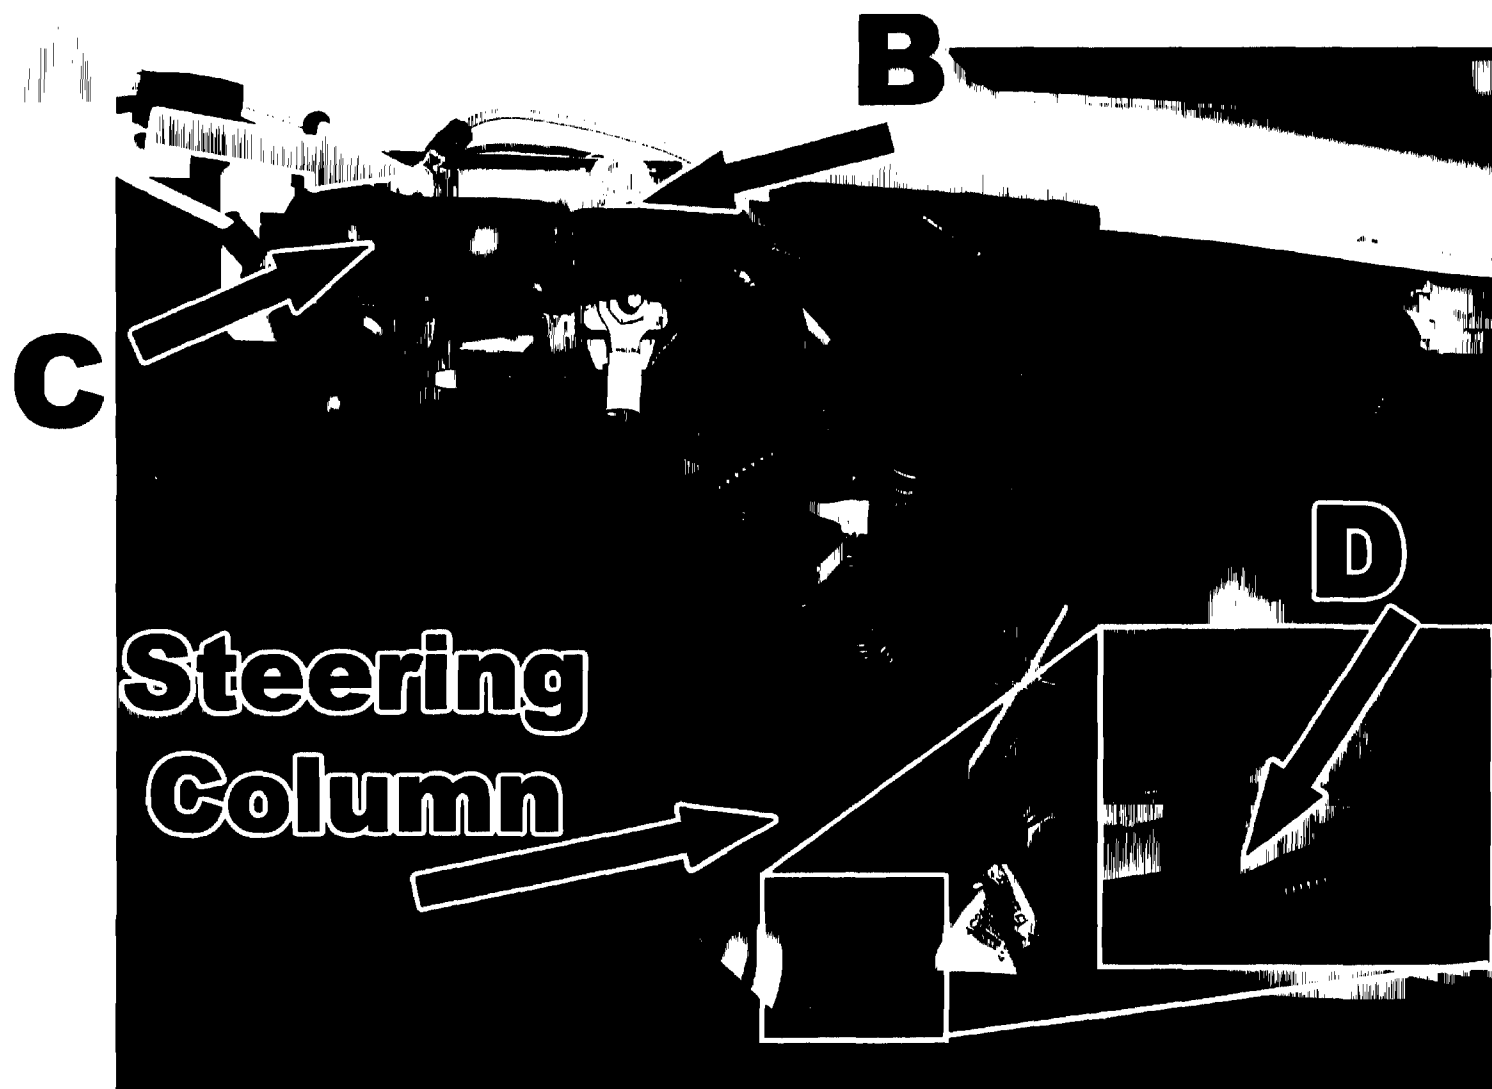

Fig. 1
3. Locate the steering column in the engine compartment coming out of the firewall. (Fig. 1)